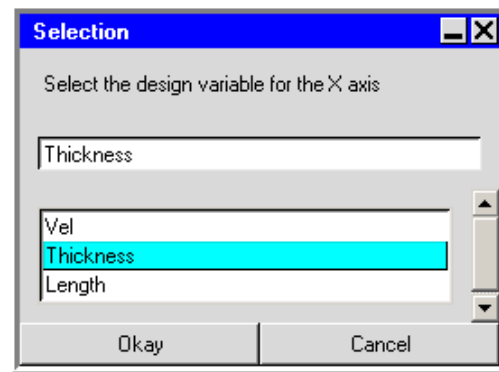

Figure 24.9.2: The Select Panel (x axis selection)
2. In the **Parametric trials** panel (Figure 24.9.1), click the **Plot** button to open the **Selection** panel (Figure 24.9.2). In the **Selection** panel, select the design variable for the x axis (e.g., **Thickness**), and click **Okay**.